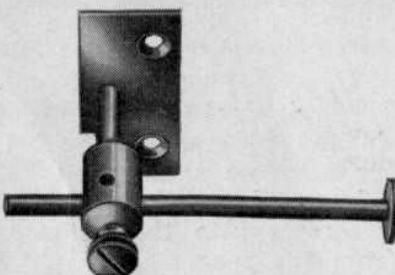

FIG. 62
e. Sewing Raised Seams with Cord Insertion: This operation requires the use of the regular zig-zag needle plate which is normally installed on the machine. Also attach to presser bar the two needle presser foot with the five wide grooves. Furthermore the cord reel holder, shown in fig. 62, must be screwed to the underside of the sewing machine table.